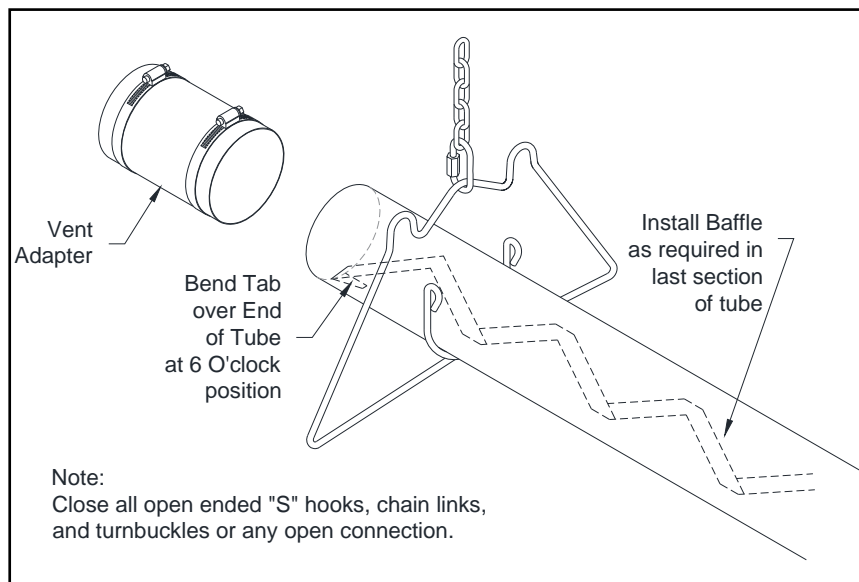

**Figure 9: Burner Gasket Installation**
- Locate the burner gasket provided, bolt the burner in place on the tube flange with provided hardware. **Burner must never be installed in a tilted position.** The sense electrode of the burner cup should be in the 12 o'clock position (**Figure 9**).